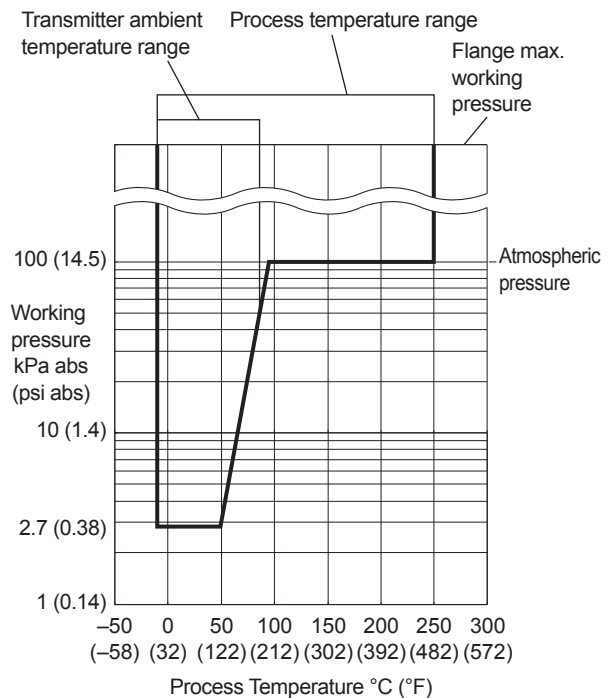

Figure 11.1 Working Pressure and Process Temperature
For atmospheric pressure or below, see figure 11.1.
- *1: See figure 11.1 'Working Pressure and Process Temperature.'